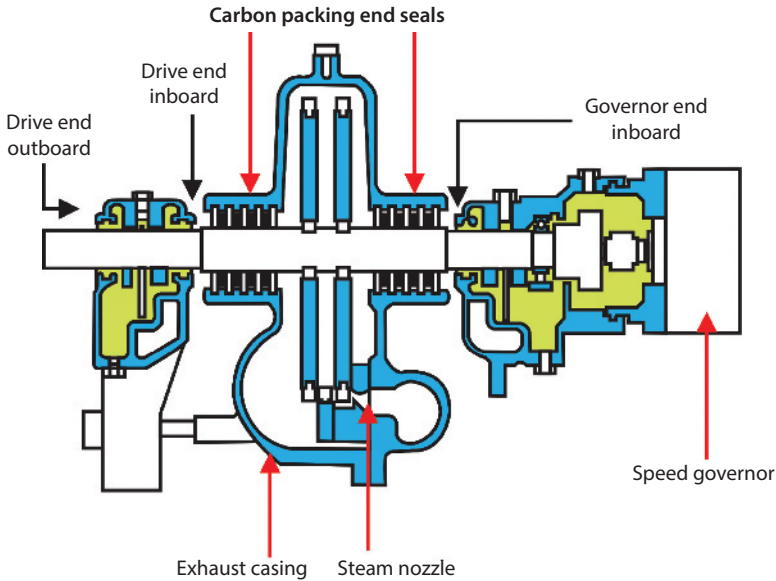

Figure 1.3 Cross section of an impulse steam turbine.
2. A set of stationary steam nozzles capable of accelerating high-pressure steam to create high velocity jets. (See the steam nozzle in Figure 1.3.)
4. Seals that can control steam leakage from traveling down the shaft. (See carbon packing end seals in Figure 1.3.)
5. A governor system capable of controlling rotating speed within design specifications. (Speed governor in Figure 1.3.)